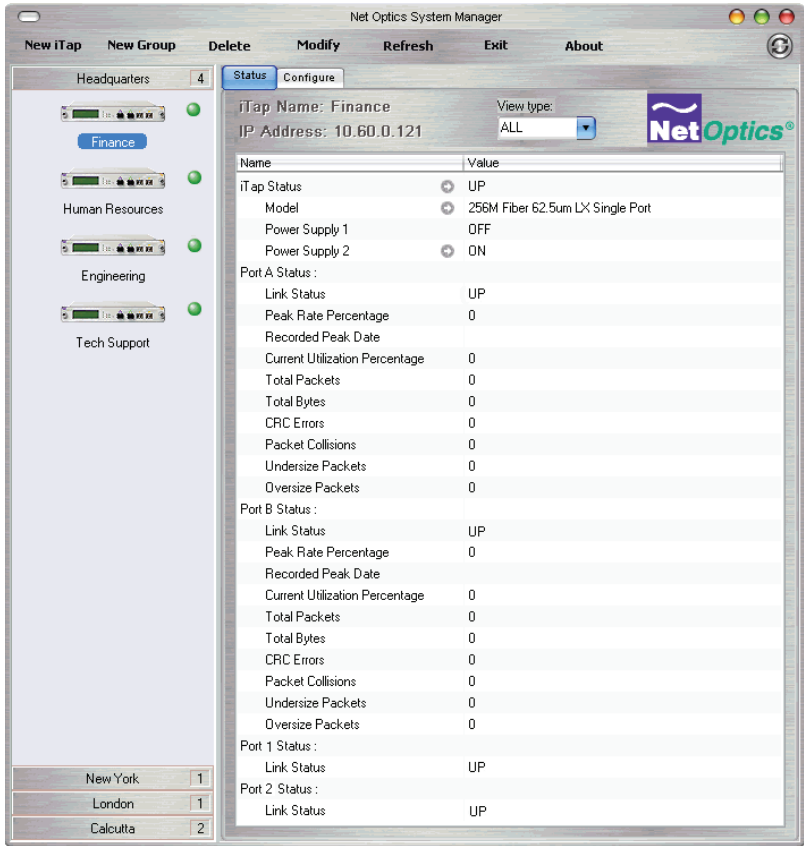

Figure 34: iTap Status Tab
1. Click the image of the iTap you want to view in the System Frame. A window similar to Figure 34 appears.